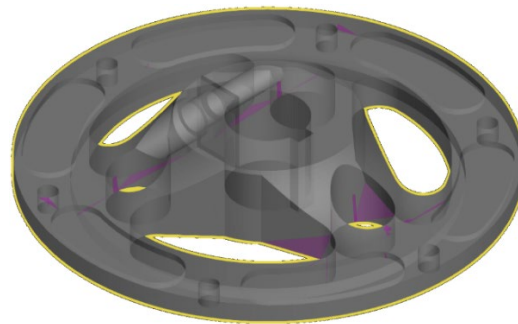

Figure 7 Before Automatic Fix
- Notice that the part is outlined in yellow and Self-intersections are highlighted (Figure 7).